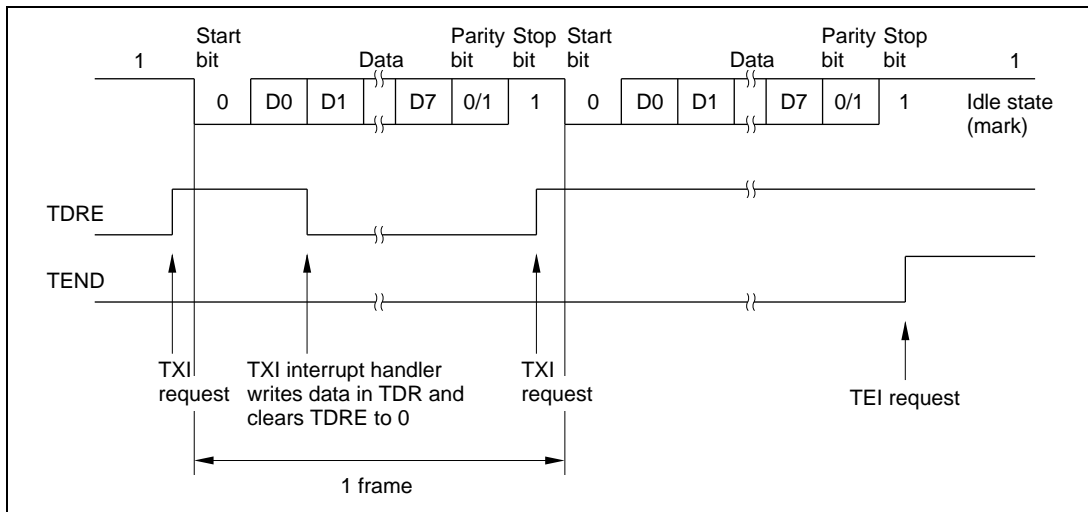

**Figure 13-5 Sample Flowchart for Transmitting Serial Data**
**Transmitting Serial Data:** Follow the procedure in figure 13-5 for transmitting serial data.
**Transmitting Multiprocessor Serial Data:** See figures 13-5 and 13-6.